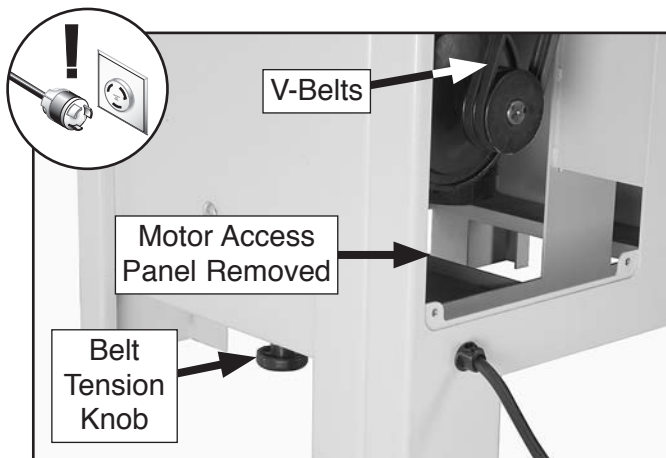
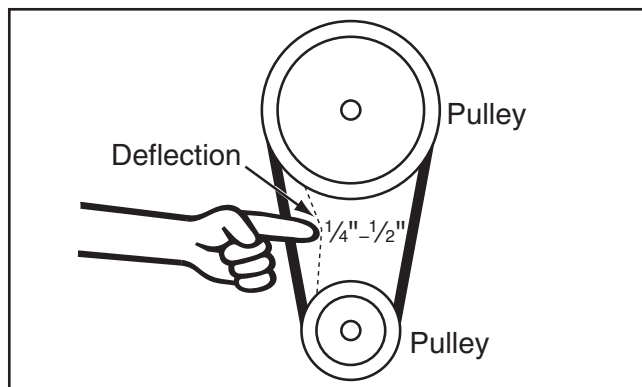

Figure 59. Location of V-belts and belt tension knob.
Figure 60. Checking V-belt tension.
2. Remove motor access panel on back of machine (see **Figure 59**).
3. Press each belt with moderate pressure in center to check belt tension. Belt is correctly tensioned when there is approximately $\frac{1}{4}$ "– $\frac{1}{2}$ " deflection when pushed, as shown in **Figure 60**.
4. Use belt tension knob (see **Figure 59**) to adjust V-belt tension until there is approximately $\frac{1}{4}$ "– $\frac{1}{2}$ " deflection when V-belts are pushed with moderate pressure, as shown in **Figure 60**.
4. Remove belt tension knob (see **Figure 59**).